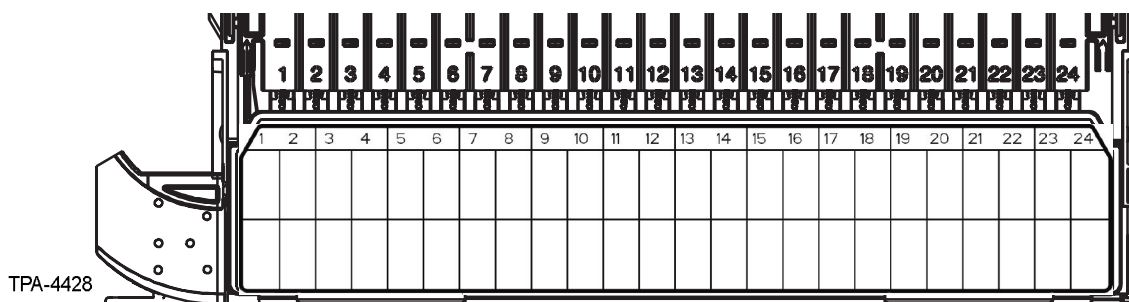

Figure 26
Step 22: Affix the designation label to the handle (Figure 26), if it is not already attached.